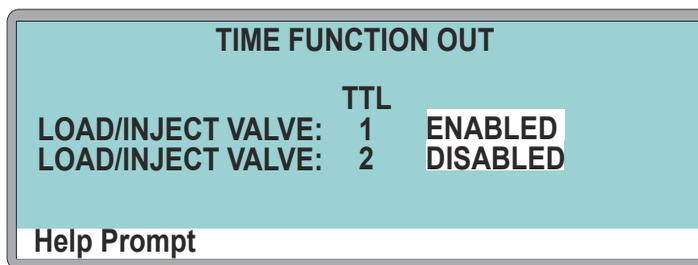

Figure B-42. AS50 Time Function Out Screen
1. On the AS50 front panel, press **Menu** and **0** to go to the **TIME FUNCTION OUT** screen (see Figure B-42). In the **LOAD/INJECT VALVE:** **TTL 1** field, select **ENABLED**.